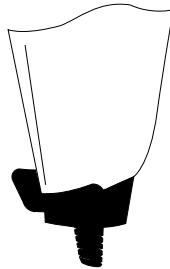

Figure 2-3. Boot Securely in Place
- Slide the boot up while observing its orientation until it is securely in place (Figure 2-3).